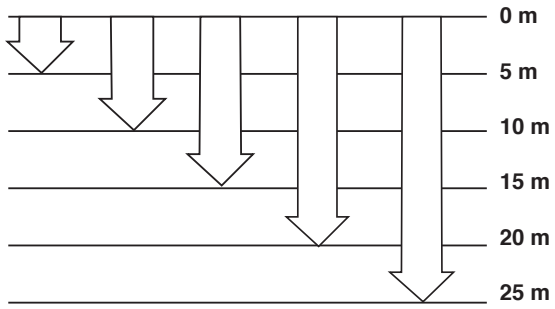

Figure 143.1 Colour penetration
1. Use your textbook to indicate which of the arrows are red, orange, yellow, green and blue in Figure 143.1.